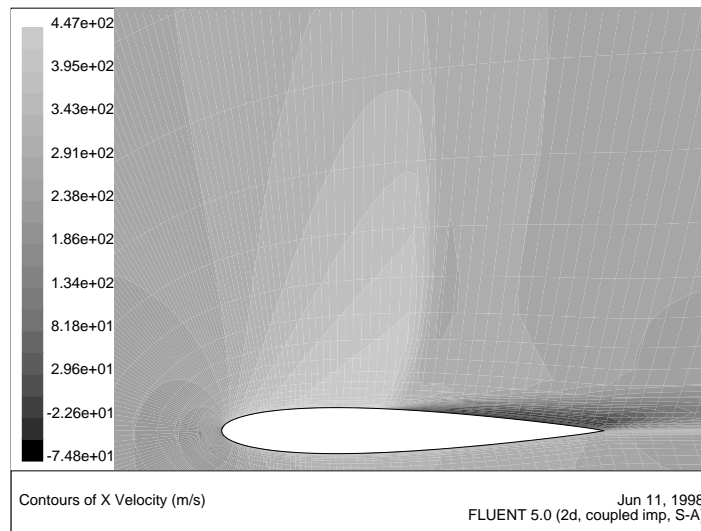

Figure 2.16: Contour Plot of x Component of Velocity
5. Display filled contours of the x component of velocity (Figure 2.16).